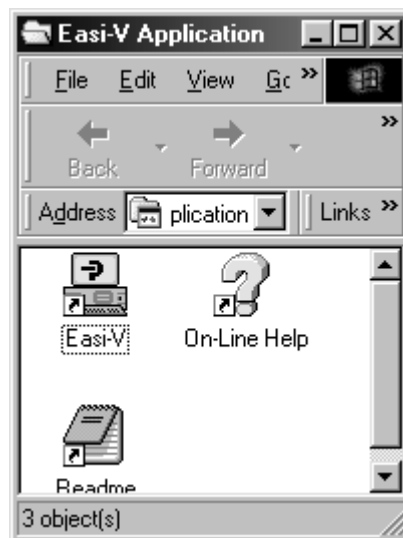

Figure 5-2. Easi-V Application Window
7. Once Easi-V has been loaded, the screen will display a message dialogue box, stating 'Setup is complete. You may run the installed program by double-clicking on the program icon.' When you click the OK button, the window shown in Figure 5-2 will appear. Note: Easi-V may also be run from the Start menu.